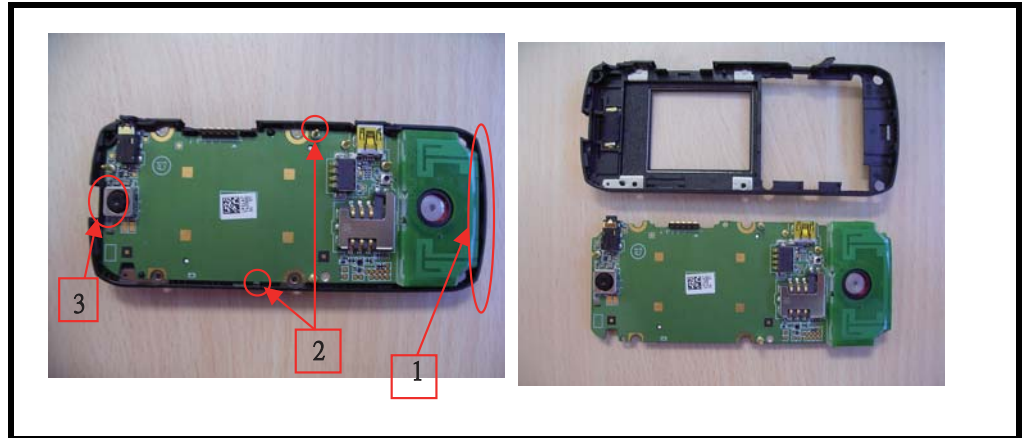

Figure 12. Removing the PCB
2. Separate main PCB from side band. Release the hooks 1~3 as shown in Figure 12.